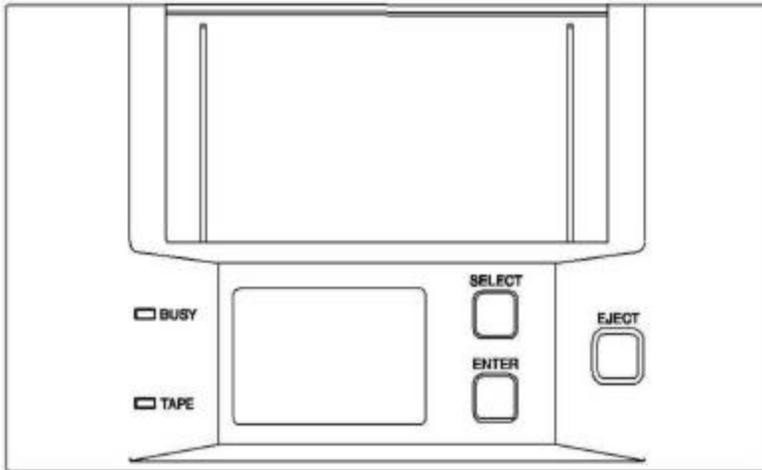

Figure 4-1. Front Panel
- Check the front display LEDs for error information, see Figures 4-1 and 4-2.